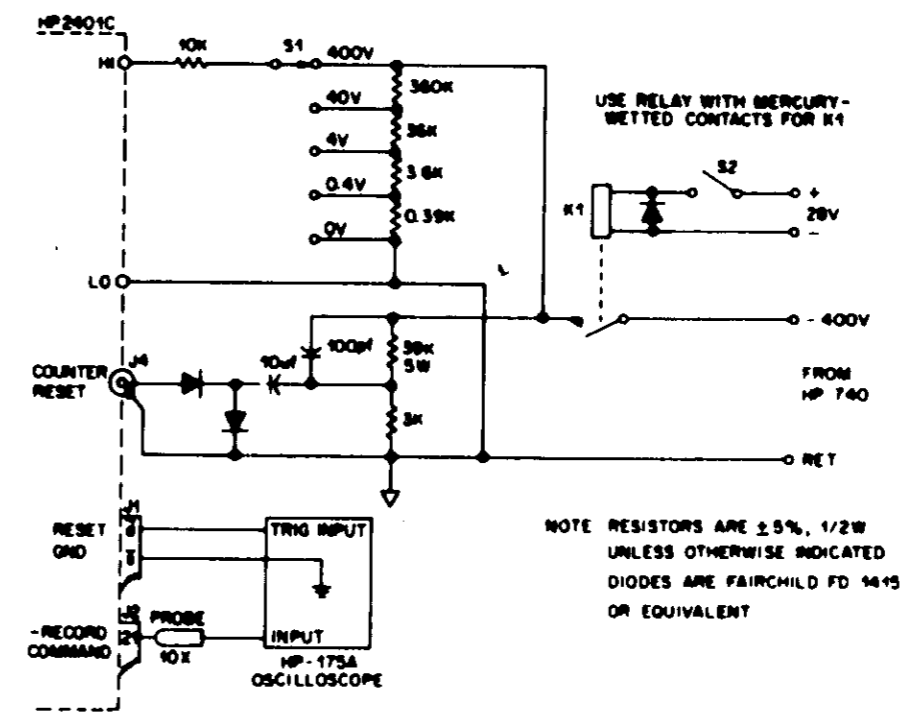

Figure 31-1. Setup for Check of Range Select Time
The in-cabinet performance checks for the HP-2401C-31 are specified in Table 31.2. The test setup is shown in Figure 31-1. Except where otherwise specified, any notations to check 31.1, etc., refer to that table only.
a. Make connections illustrated in Figure 31-1; set DC Standard for 800 output.